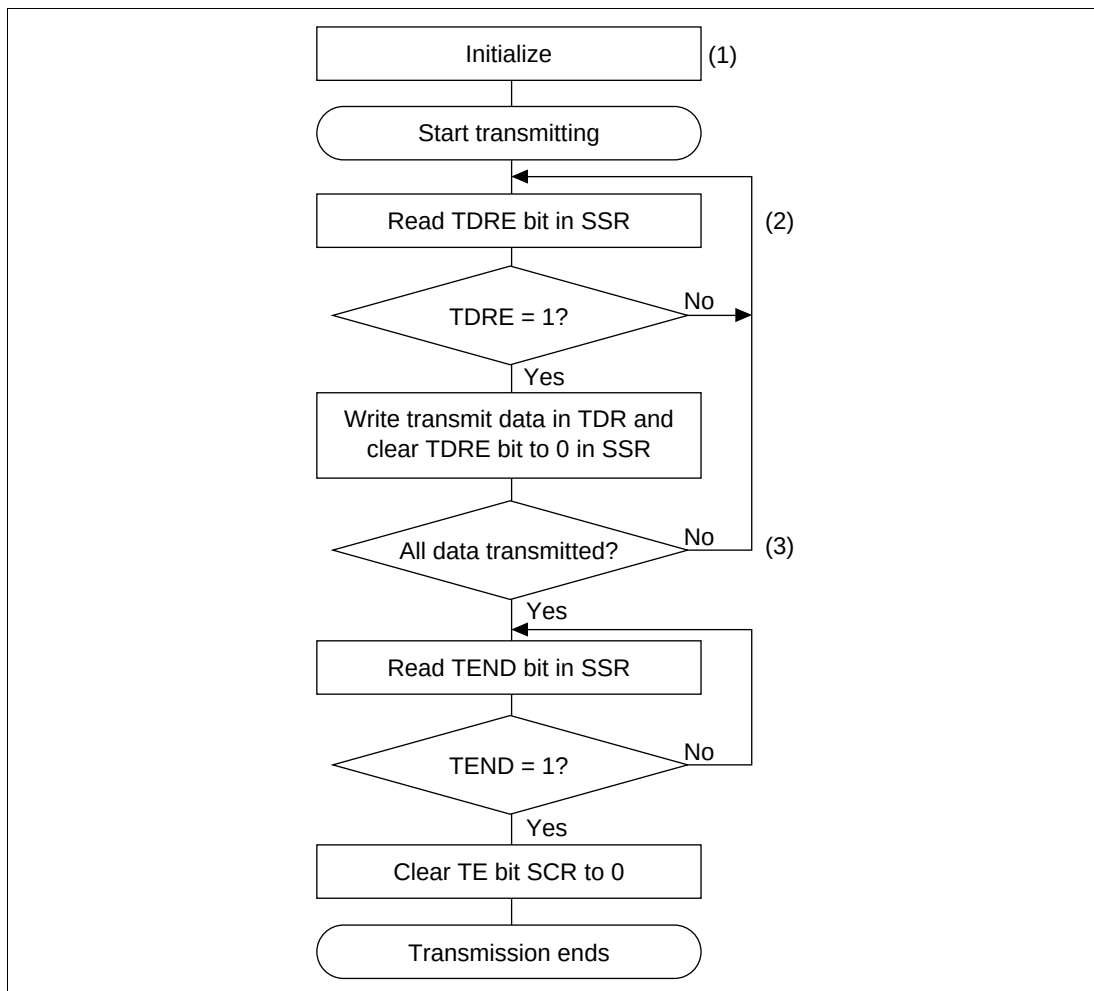

**Figure 13.17 Sample Flowchart for Serial Transmitting**
**Transmitting Serial Data (Synchronous Mode):** Figure 13.17 shows a sample flowchart for transmitting serial data. The procedure for transmitting serial data is listed below.
3. To continue transmitting serial data: read the TDRE bit to check whether it is safe to write (1); if so, write data in TDR, then clear TDRE to 0. When the DMAC is started by a transmit-data-empty interrupt request (TXI) to write data in TDR, the TDRE bit is checked and cleared automatically.